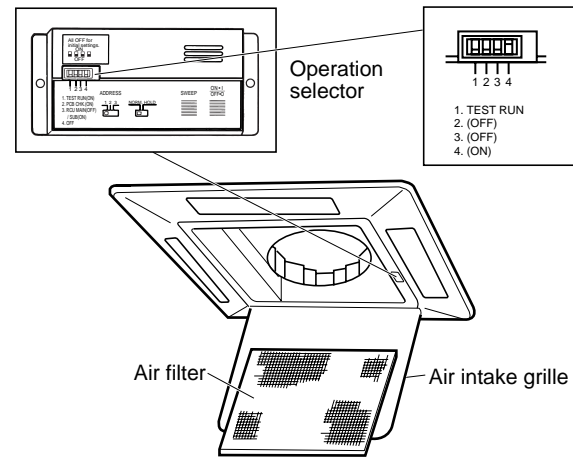

Fig. 11-1
- (1) For XHS models, the Operation Selector is located above the electrical component box inside the indoor unit. To access the Operation Selector, press the two latches of the air intake grille in the direction of the arrow to open the grille. Open the air intake grille downward. (Fig. 11-1)
- (2) Set the TEST RUN switch of the SERVICING switches on the Operation Selector (housed inside the indoor unit) to the ON position. (Fig. 11-1)
- (3) Press the ON/OFF operation button on the remote control unit and start the air conditioner in Cooling or Heating mode.
- (4) Let the unit run for about 30 minutes and check that the unit operates normally.
- (5) After the test run, be sure to set the TEST RUN switch back to the OFF position to cancel the test run mode. Then stop the air conditioner.